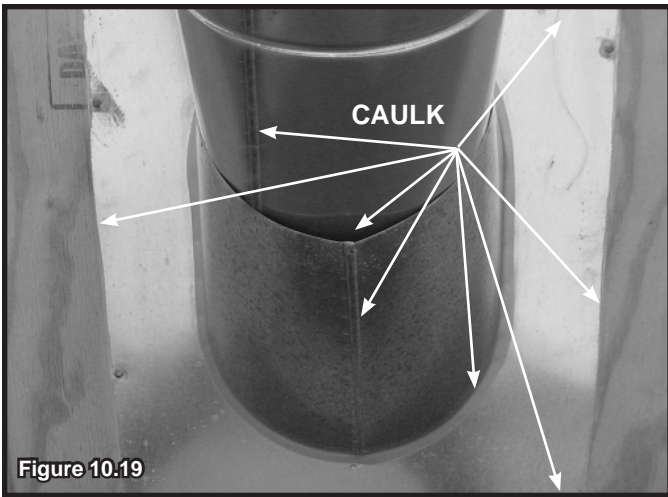

Figure 10.19
- Slide the roof flashing over the pipe sections extending through the roof as shown in Figure 10.19.